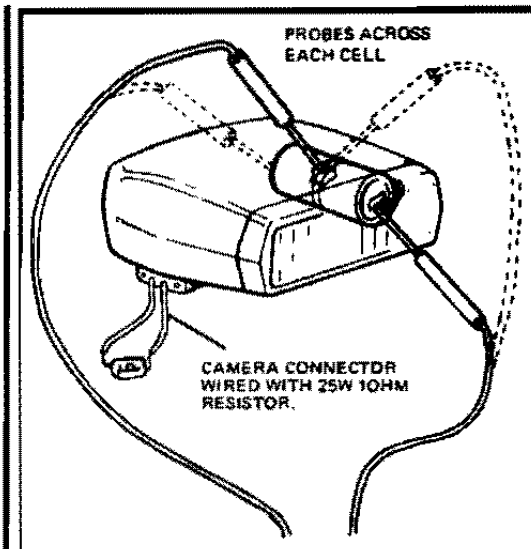

FIG. 3-2 TESTING EACH BATTERY CELL
- d. Cut the covering over the battery cell as shown in Figure 3-2.